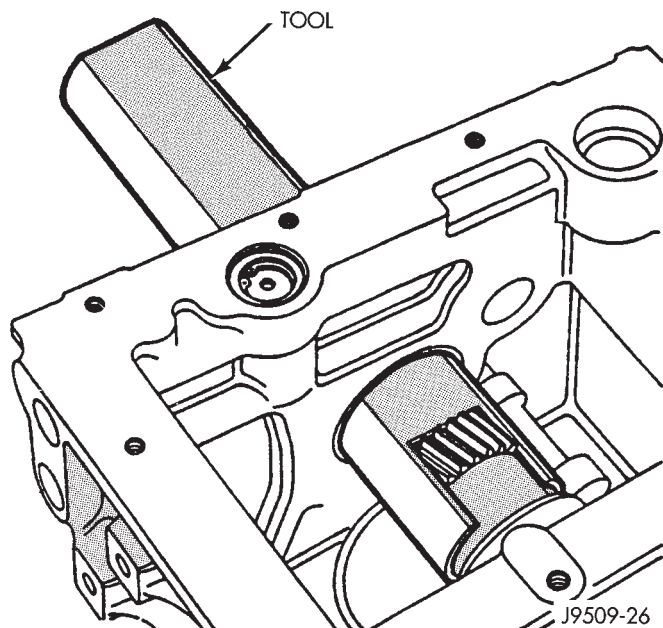

Fig. 55 Crankshaft Special Tool VM-1004
(17) Install special tool VM-1004 onto crankshaft over gear (Fig. 55).